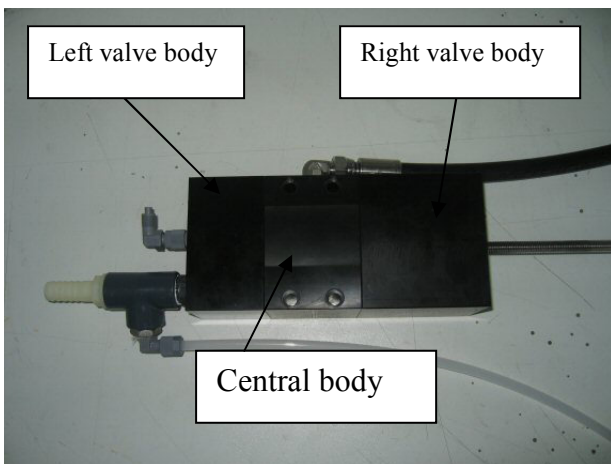

Fig. 16
- 16) Dismount left valve body (exhaust sea water side) unscrewing the 4 screws M8x70 DIN 912 (fig. 16);
- 17) Dismount the right valve body (reset arm side) unscrewing the 4 screws M8x100 DIN 912 (Fig.16);